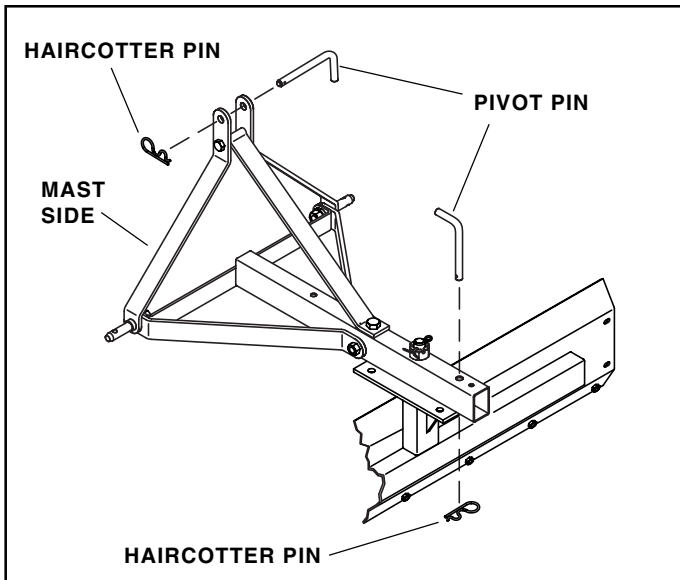

FIGURE 8
8. Lock the blade assembly to the mast assembly by installing a pivot pin at the rear of the mast assembly. Secure the pin using a haircutter pin through the hole in the end of the pivot pin. See figure 8.
9. Install a pivot pin through the hole at the upper end of the mast sides to provide a connection point for the tow vehicle's winch system. Secure the pin with a haircutter pin through the hole in the end of the pivot pin. See figure 8.